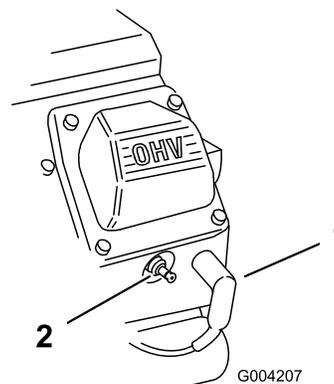

Figure 24
2. Pull the wires off of the spark plugs (Figure 24).
3. Push the wires onto the spark plugs (Figure 24).